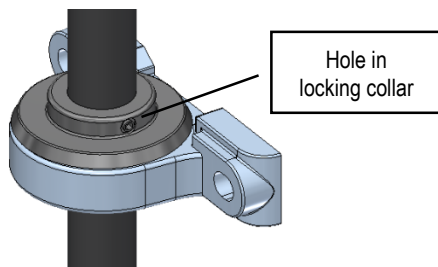

Figure 49: Locking collar detail
3. Place a drift pin in the hole of the lower bearing locking collar per **Figure 49**, and tap the drift pin with a hammer in the direction of shaft rotation.